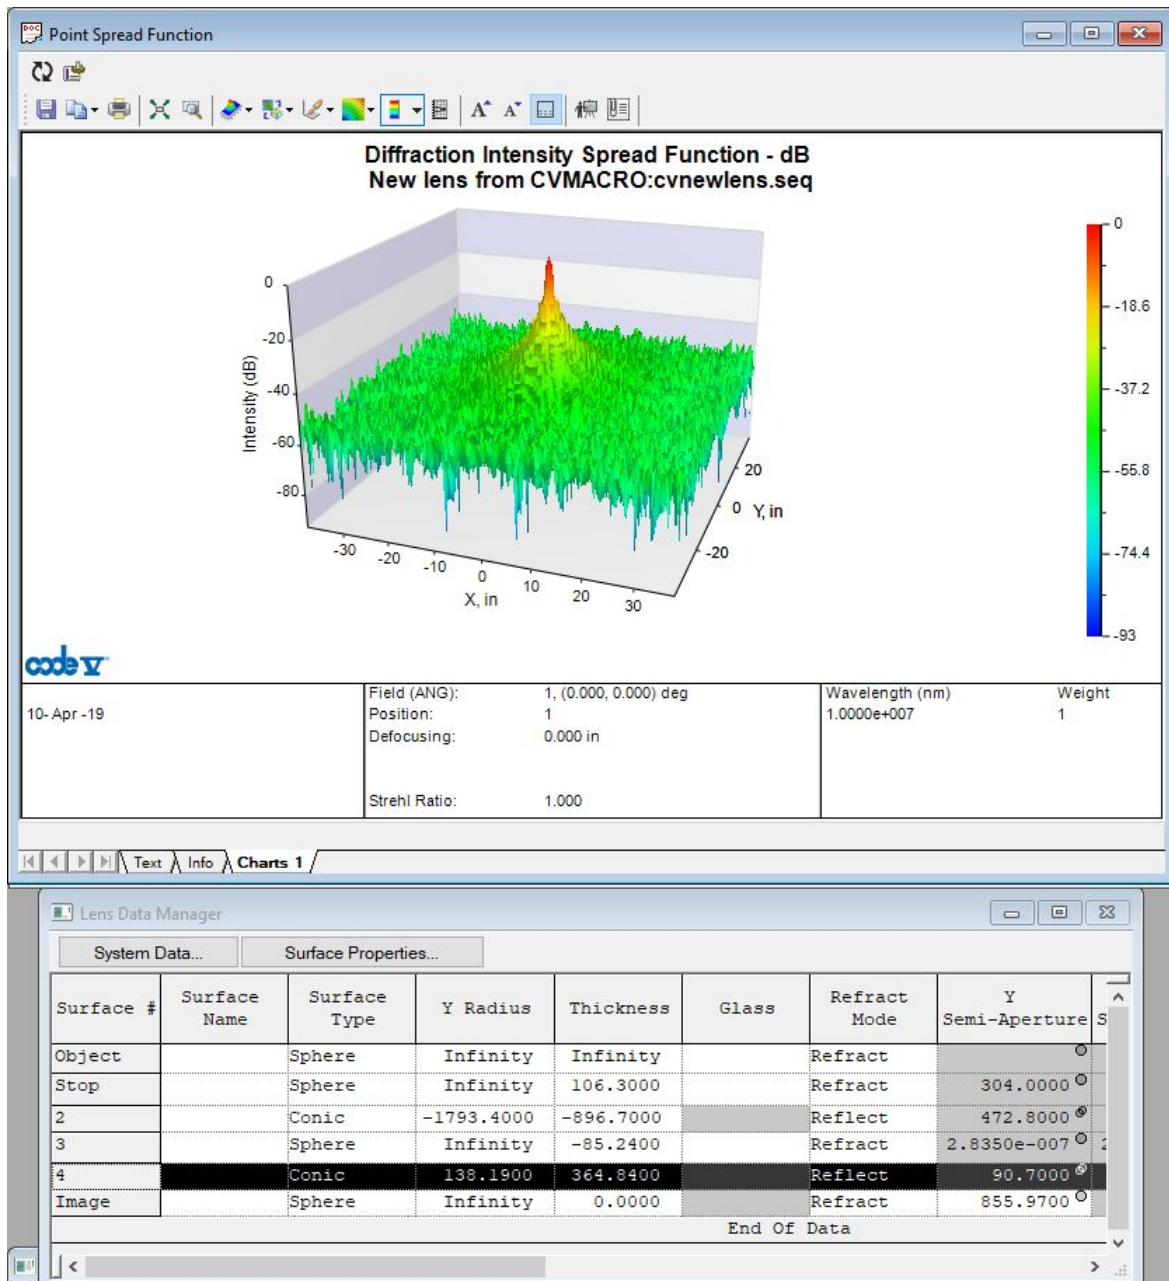
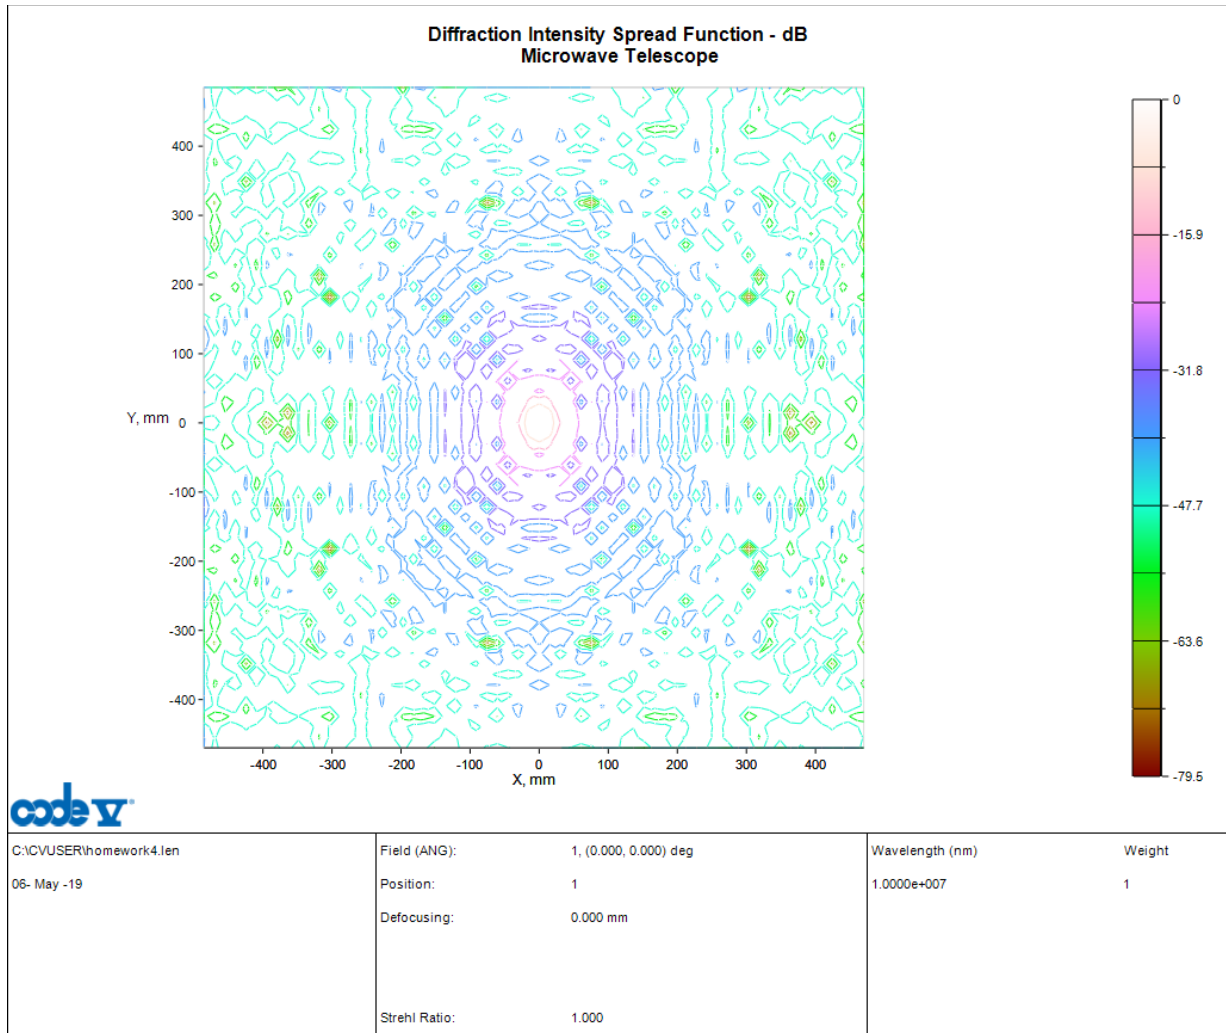

Figure 5
Figure 7
Make a point spread function. Go to Analysis->Diffraction->Point Spread Function. Choose Point Spread Function Intensity Normalization -> Decibels, and choose a threshold of 3 decibels. In output controls tab, uncheck the generate output listing box. Print picture similar to Figure 5. Turn this in.
Make a third and final PSF. Choose Output type: decibel, threshold: 3db. This will generate figure 5 again. In the toolbar of the plot window, select chart type -> Contour. Print a picture similar to Figure 7. Turn this in.
1. Explain why Figs 5 & 6 have different appearances even though they represent the same PSF (In one paragraph).